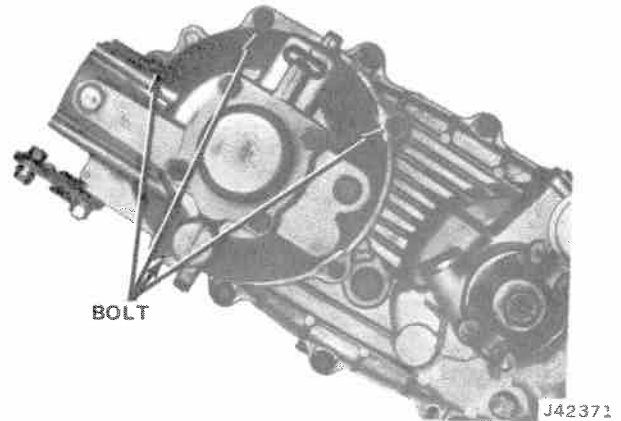

Fig. 8-20 Reduction Unit Attaching Bolts
- (1) Lift and support vehicle.
- (2) Loosen all bolts attaching reduction unit to transfer case cover (fig. 8-20).
- (3) Move reduction unit rearward just far enough to allow oil to drain from unit.
- (4) Loosen low range cable retaining bolt at shift control lever and remove the control cable.
- (5) When oil has drained, remove bolts attaching reduction unit to transfer case cover.
- (6) Move reduction unit rearward to clear transmission output shaft and pinion cage which is attached to transfer case drive sprocket.